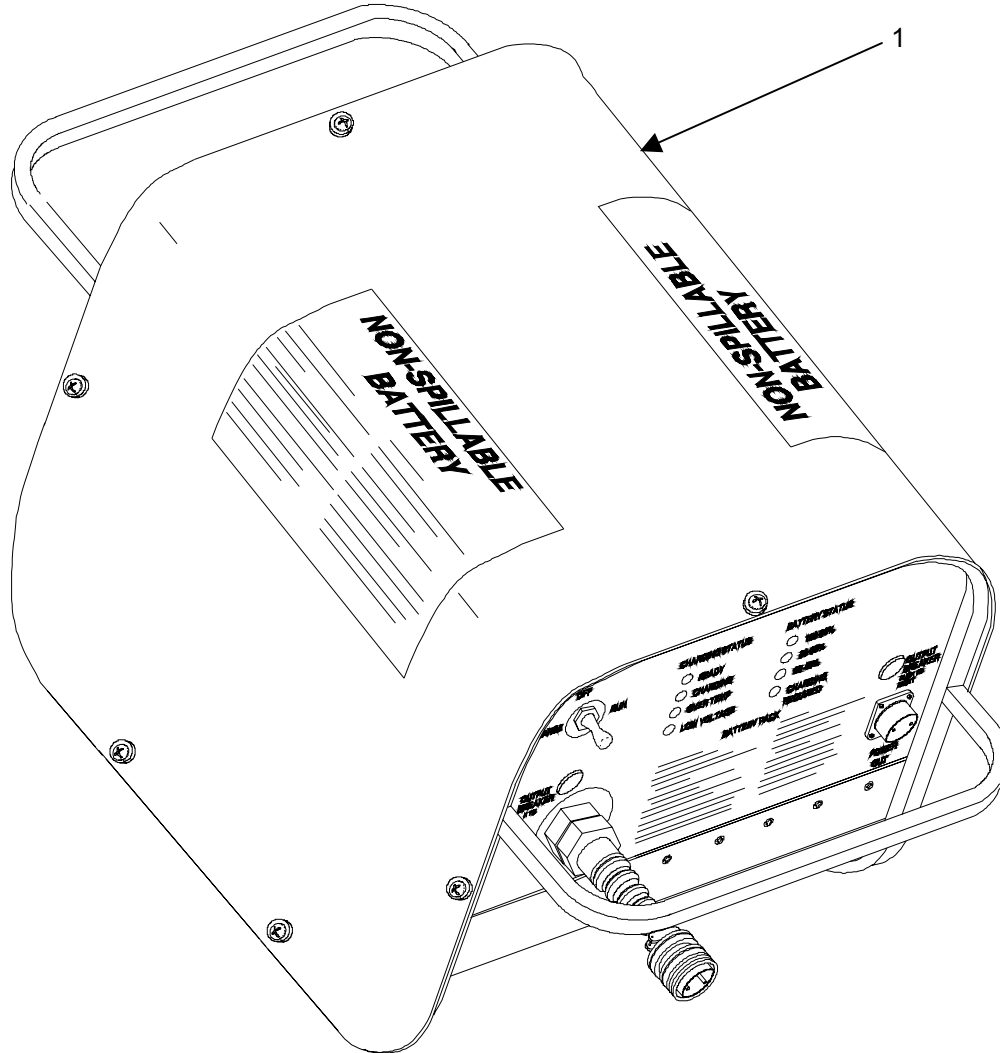

Figure 2. Replace the Battery Pack
Replace the entire Battery Pack (**figure 2, item 1**) if damaged beyond repair.